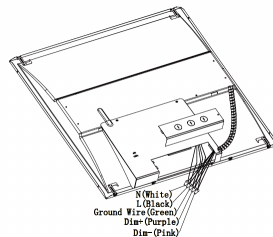

Fig. 3
3. Connect all wires accordingly (Fig. 3)